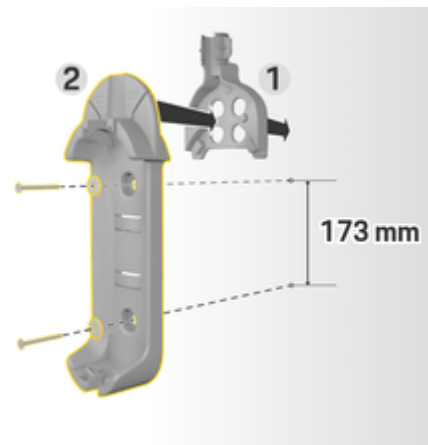

Fig. 3: Drilling dimensions
3. Press the standard wall mount **2** (Fig. 3) into the cable guide **1** (Fig. 3) from the front.